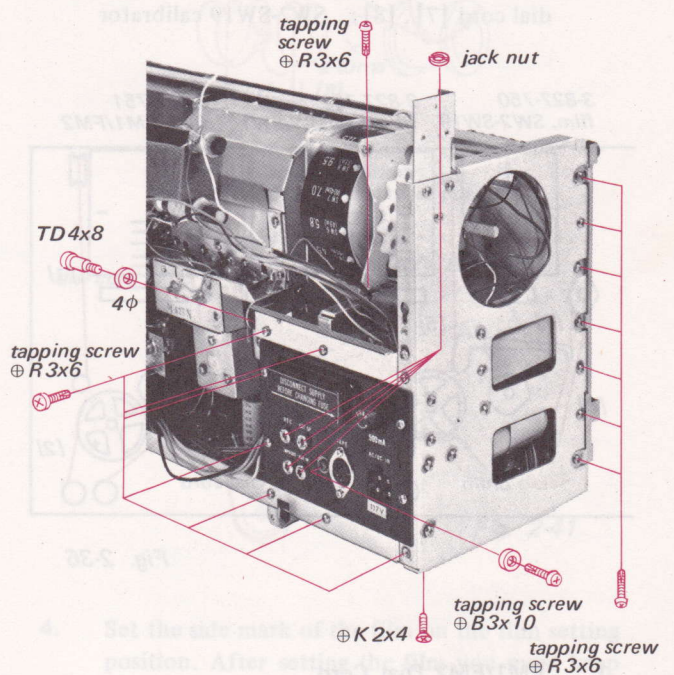

Fig. 2-34
3. Remove the eighteen screws shown in Fig. 2-34.
5. Remove the power supply circuit board as shown in Fig. 2-34.